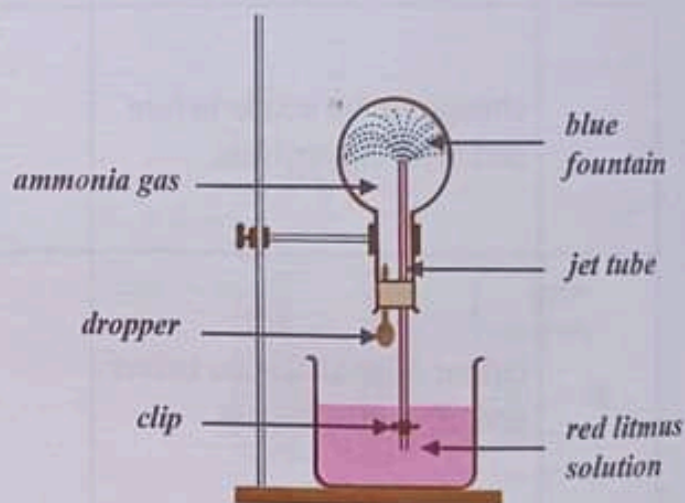

Figure 2 The Ammonia Fountain
- The red litmus solution will rise up in the glass tube and form a blue fountain inside the inverted flask as illustrated in Figure 2.